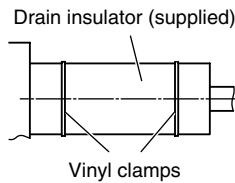

Fig. 3-64
- After connecting the drain pipe securely, wrap the supplied packing and drain pipe insulator around the pipe, then secure it with the supplied vinyl clamps. (Fig. 3-64)